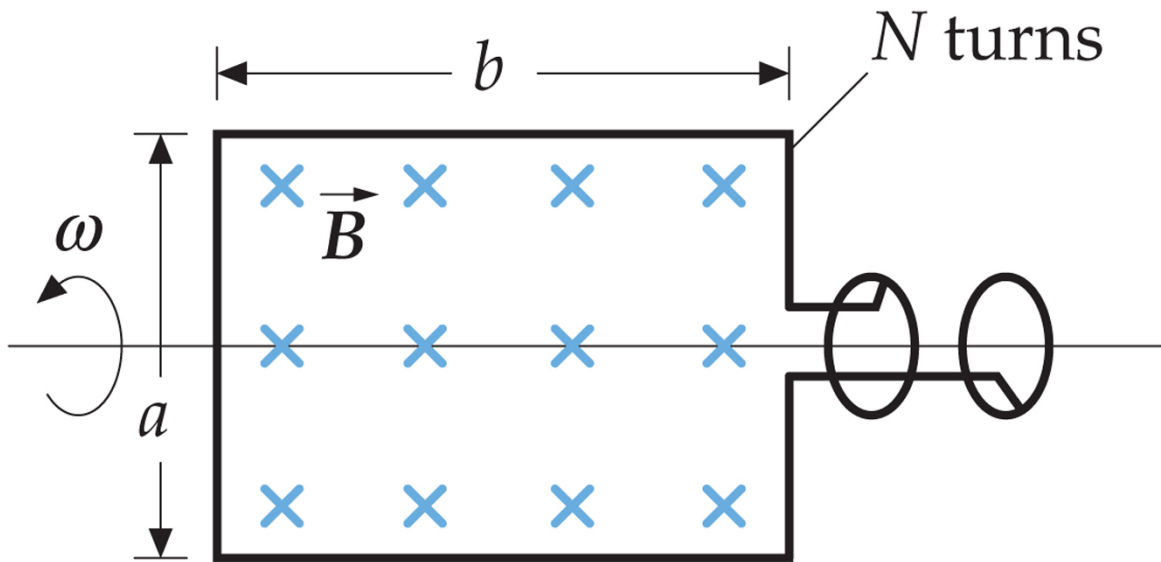

Figure 2: Rotating Coil Gaussmeter
- (6p) **2d.** Magnetic field strengths can be measured by a rotating coil gaussmeter. This device uses a small multi-turn coil rotating at a high speed on an axis perpendicular to the magnetic field. This coil is connected to an ac voltmeter by means of slip rings, like those shown in the **Figure 2**. In one specific design, the rotating coil has 400 turns and an area of 1.40 cm². The coil rotates at 180 rev/min. If the magnetic field strength is 0.450 T, find the maximum induced emf in the coil and the orientation of the normal to the plane of the coil relative to the field for which this maximum induced emf occurs.